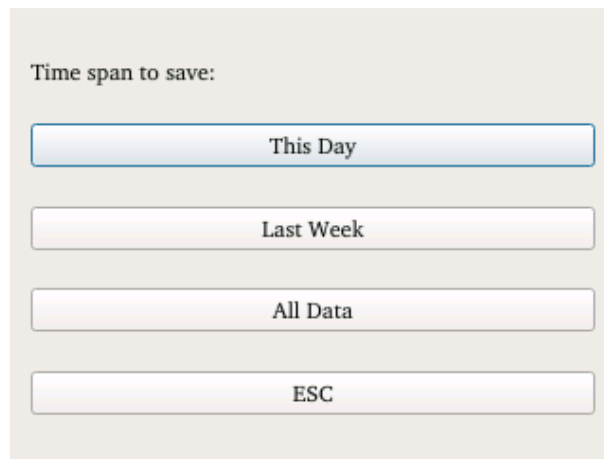

Figure 32: Menu "Save Data"
- Menu “Save Data”: Plug in a USB drive. Then you can copy the measurement data onto the USB drive for further actions. You can save the data of this day, last week or all data see, Figure 32.